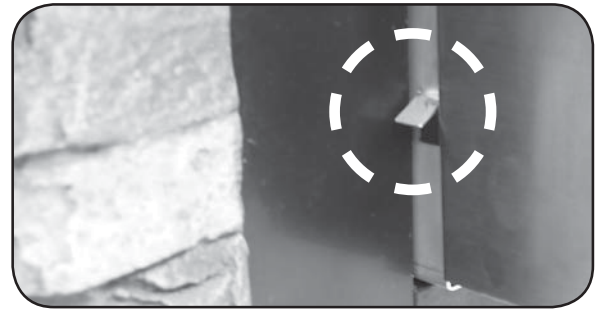
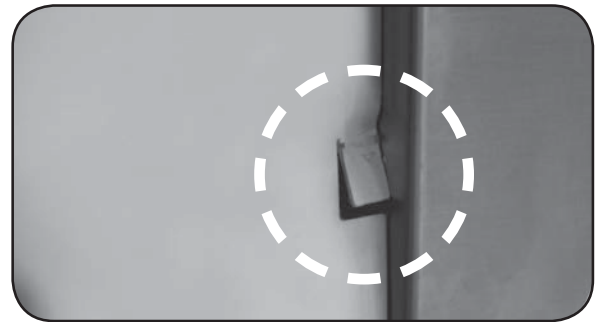

Fig. 19-1 Tab may interfere when sliding in unit
Fig. 19-2 Tab slightly bent in for clearance
**Note:** Each side of the unit has a tab just behind the control panel. These tabs prevent the control panel from moving inward. If the tabs interfere with the unit sliding in (see Fig. 19-1), use pliers to bend them inward so that they clear the enclosure sides. Leave the tabs slightly out to ensure they still keep the control panel from moving inward (see Fig. 19-2).
Carefully place the cooking grid onto the front and rear grid rests of the unit (see Fig. 19-2).